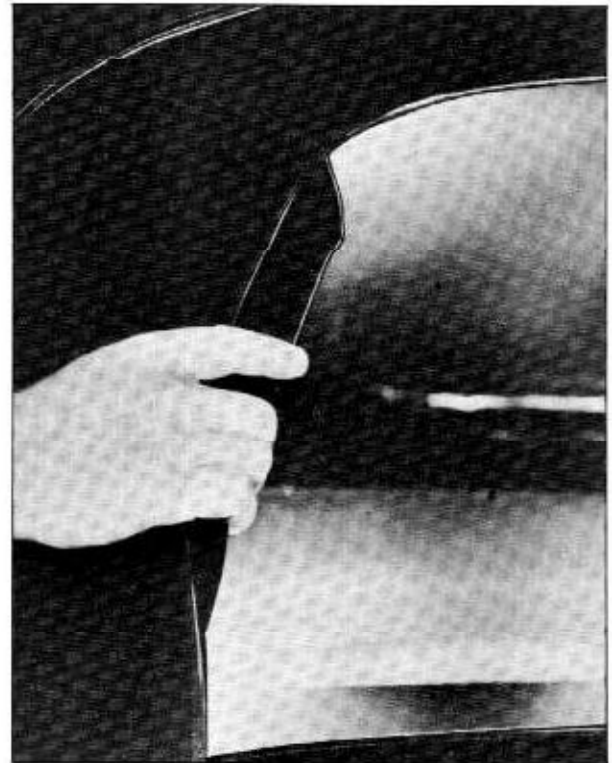

Fig. 17-113 Tuck in Flaps
2. On outside of car after window has been raised, tuck top flaps into valance along right and left side of window opening. (Fig. 17-113)